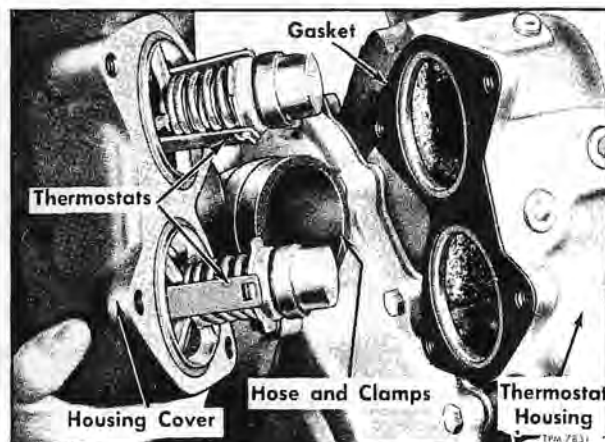

Figure 6—Engine Thermostat Replacement
4. Remove bolts which attach cover to housing, then remove cover and two thermostats (fig. 6).